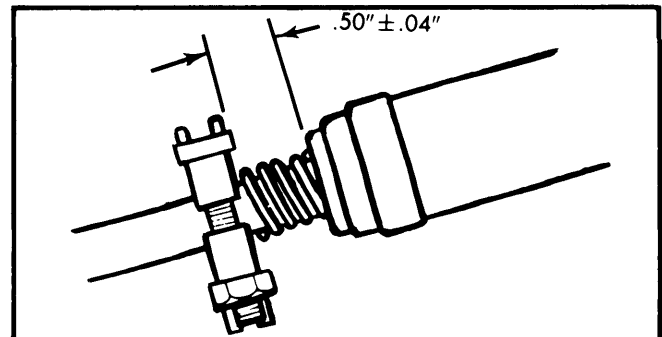

Fig. 13 Steering Column Lower Bearing Adjustment for "G" Models
7) Rework a shift tube removing tool (J-22551) by removing $\frac{1}{2}$ " from pilot end of tool as shown in Fig. 13. Remove shift tube assembly using reworked tool as follows: Insert hooked end of tool into notch in shift tube just below shift lever housing key. Pilot sleeve over threaded end of tool and into upper end of shift tube. Force shift tube out of housing by turning nut onto the tool. If shift tube is not completely free when nut is bottomed on its threads, complete removal by hand.